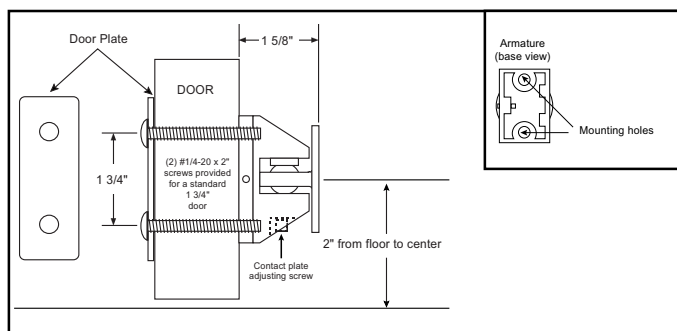
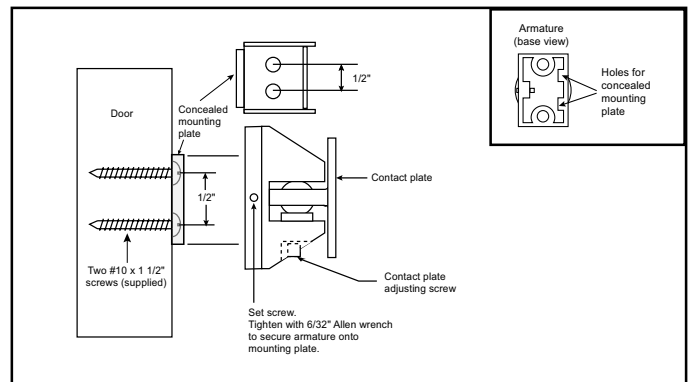

Figure 5. Thru-Bolt Mounting
Figure 6. Surface Concealed Mounting
- Using a 5/32" Allen wrench, turn the contact plate adjusting screw (Figures 5 and 6) counterclockwise to loosen the contact plate.
- Thru-bolt mounting (Figure 5).** Center punch the two holes (at the points marked in step 3) and drill 5/16" diameter through the door. Distance between the center points should equal 1 3/4".
Secure the armature assembly, with the contact plate adjust screw facing down, to the door as shown in Figure 5 using (2) #1/4-20 x 2" screws (supplied)
**NOTE:** For 2" doors, use (2) 1/4-20 x 2-1/4" bolts.
- Surface concealed mounting (Figure 6).** Measure two
Align the holes for the concealed mounting plate in the armature base with the pins on the concealed mounting plat. Secure the armature assembly, with the contact plate adjust screw facing down, to the door by tightening the set screw as shown in Figure 6.